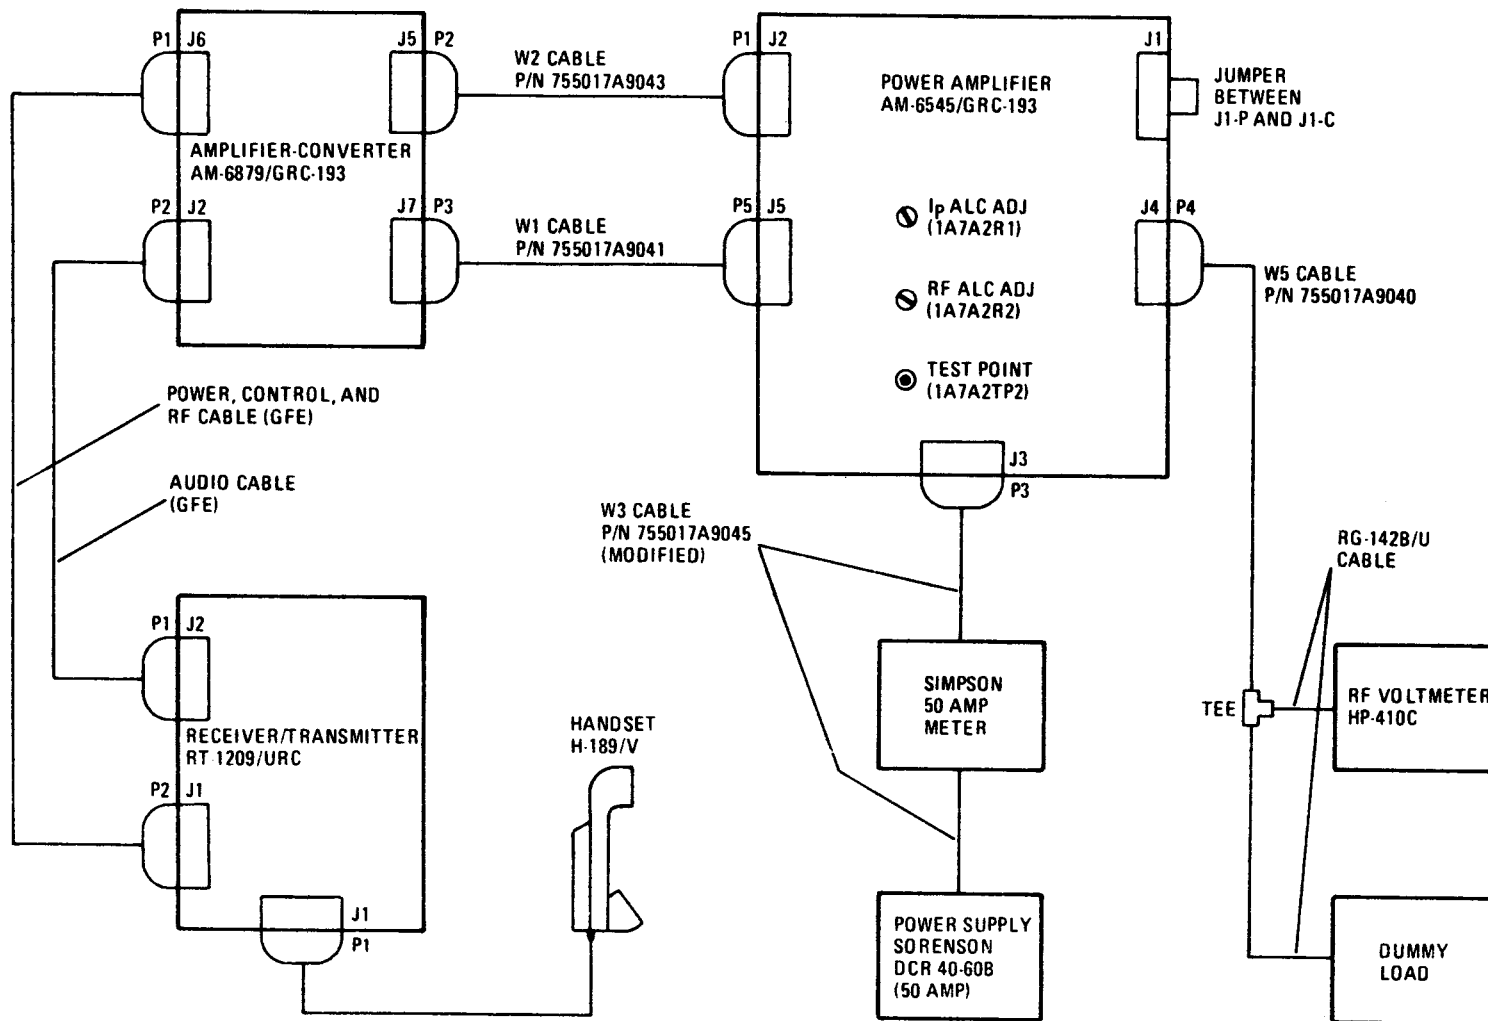

Figure 3-26. Ip ALC and RF ALC Adjustment Setup
1. Establish the adjustment setup shown in figure 3-26.